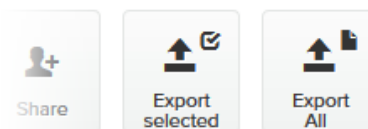

Figure 71. Plug-ins web page (code export controls)
4. To export only selected Activation codes, check the selection check-boxes to the left of each plug-in that must be included in the *.CSV file, then click the **Export selected** button. Alternatively, export all Activation codes by clicking the **Export All** button (Figure 71 (page 151)).